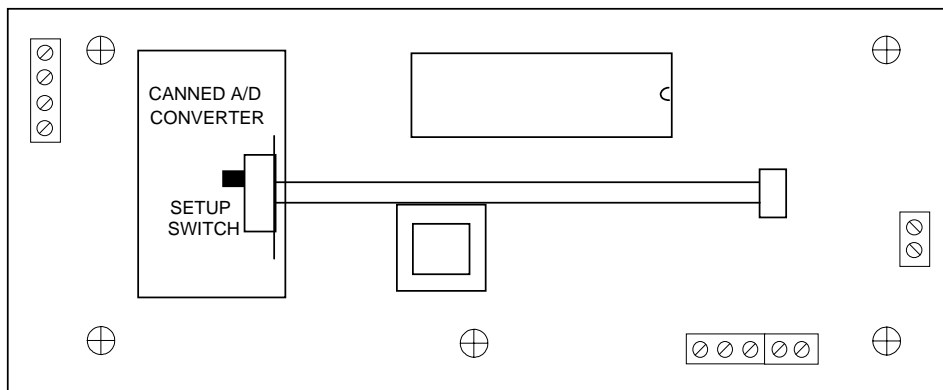

Figure 5-1: PALLET RUNNER 3000 Main Circuit Board Overview
2. Remove the top digital display cover and find the black switch. The switch is located on top of the silver canned A/D converter. (Refer to Figure 5.1 for switch location)